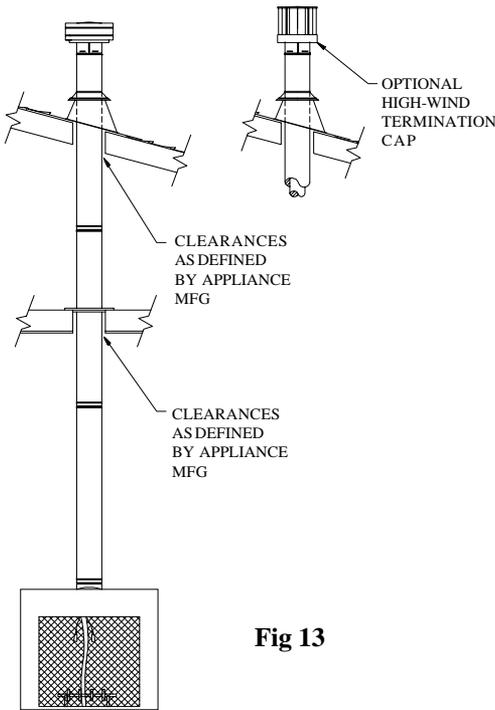

Fig 13
Step 1. Check the appliance manufacturer's installation instructions for required clearances (air spaces) to combustibles when passing through ceilings, walls, roofs, enclosures, attic rafters, or other nearby combustible surfaces. Do not pack air spaces with insulation. Check the appliance manufacturer's instructions for maximum vertical rise of the venting system, and any maximum horizontal offset limitations. (Fig 13)